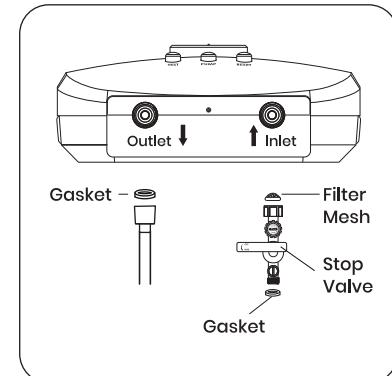

Fig. 2
1. Inlet and Outlet connection of the heater unit should not be reversed (**Fig.2**).